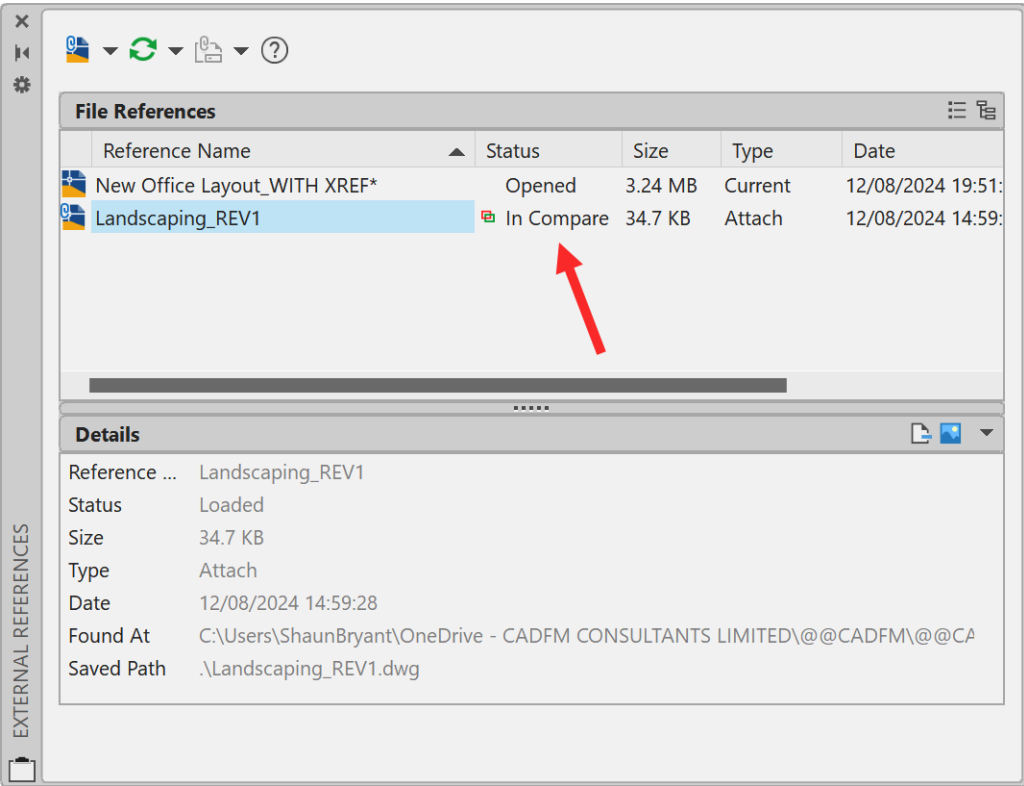

Figure 14.26: The External references palette showing the attached Xref file In Compare
- Another useful part of Xref Compare is that any **external reference file (Xref)** in comparison is noted as **In Compare** in the **EXTERNAL REFERENCES** palette, as shown in *Figure 14.26*. This is especially useful when you have more than one attached Xref file, and you must distinguish which ones are in the Xref comparison.